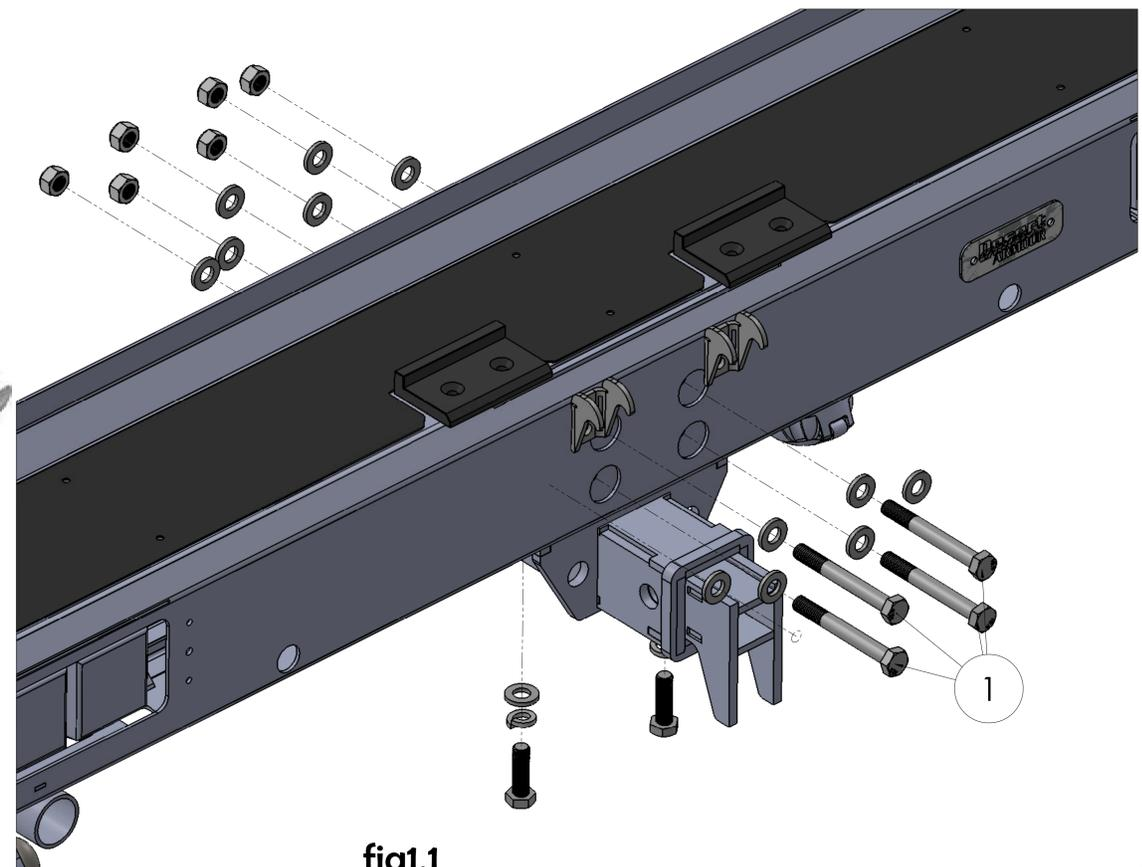

fig1.1
3. Familiarize yourself with the Mounting brackets and fitting kit, make use of a small amount of copper slip on each bolt. With the help of your assistant position your new replacement rear bumper in position and loosely fit the bolts number 1 as indicated in (fig1.1) on the Middle Mounting Bracket.